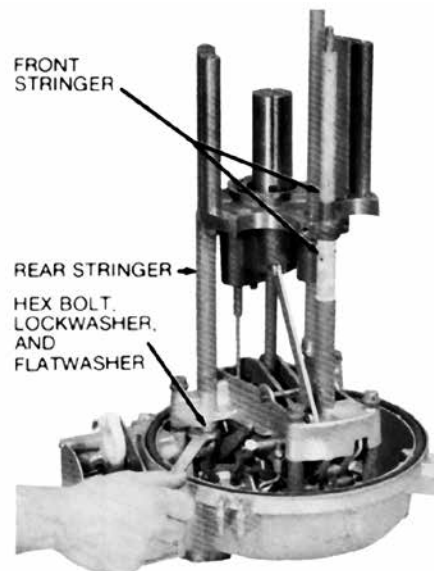

Figure 22. Removing stringers from the head and hydraulic mechanism
1. Remove the two hex bolts, lockwashers and flatwashers from the bottom of the head mechanism to release the two rear stringers (Figure 22).
2. Remove the upper half of the front stringer by unscrewing it from the lower half of the front stringer (Figure 22).